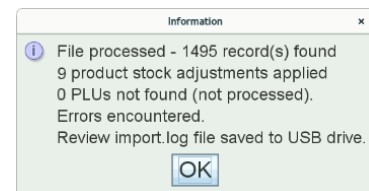

Figure 51: Stock Adjustment Summary
2. After the import process finishes, a summary is displayed (Figure 51).
Refer to Figure 51 for an example of how a **.csv** formatted Bulk Stock Adjustments file should look like.